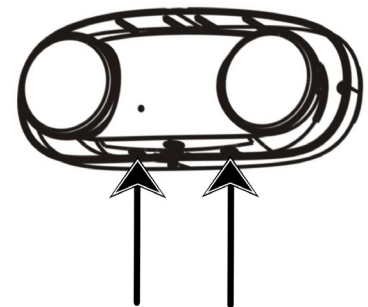

Figure 2 - Press in clips to remove fixture from backplate
Carefully unpack the exit light from its packaging. Inspect product for defects due to shipping. Become familiar with the wiring diagram below before beginning installation. Use a phillips screwdriver to loosen the (2) screws on the faceplate and remove. Set the faceplate and (2) screws aside. As seen in "Figure 2," push in the two clips to remove the backplate from the fixture, exposing the wires inside.